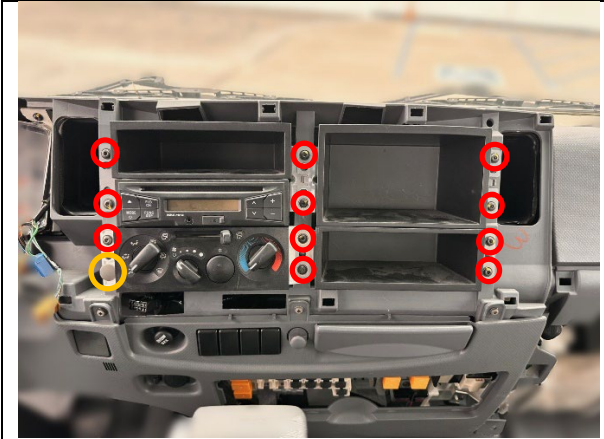

Figure 39
34. Install the cluster compartments, radio and A/C control panel removed in Step 17 (eleven (11) T25 screws and one (1) clip for the A/C control panel). If the vehicle is equipped with an aftermarket radio, follow the manufacturer's instructions for installing the radio. (See Figure 39.) **Torque the screws to: 2.9 N•m (26 lb•in)**